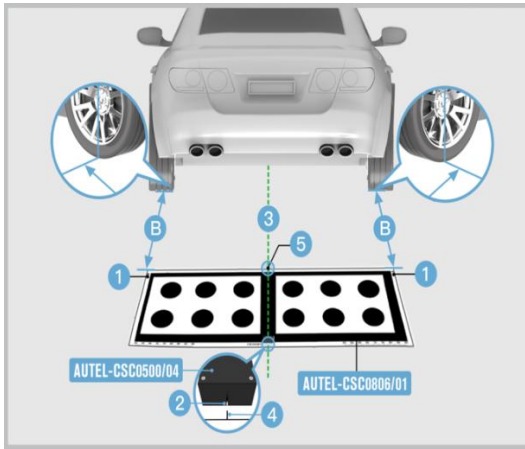

Figure 3-47 Position the Pattern behind the Vehicle
1. Lay the pattern AUTEL-CSC0806/01 directly behind the vehicle. Measure the distance between the center of the rear wheels ($B=1.47\text{ m} - 1.90\text{ m}$ (158 in – 75 in)) and the marked line (①). Ensure the distance on both sides are the same.
2. Position the laser AUTEL-CSC0500/04 as displayed in Figure 3-47 and turn on the laser. Align the marked line (②) on the back of the laser and the laser beam (③) with the corresponding marked lines (④) and (⑤) on the pattern.
3. Move the pattern AUTEL-CSC0806/01 left or right to aim the laser beam (③) at the center of the vehicle emblem. Turn off the laser and store it.